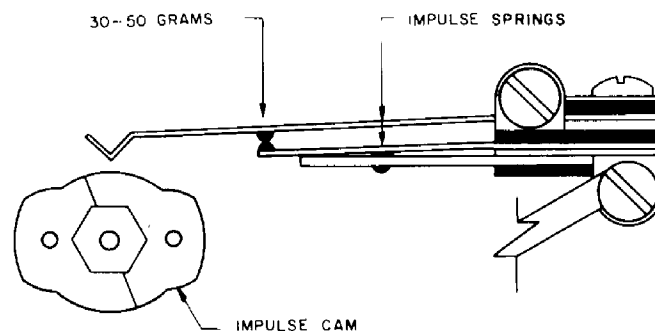

Figure 17. Main Impulse Spring Adjustment.
- (b) With the fingerwheel rotated off-normal until the tip of the main impulse spring is opposite a low side of the cam, both contacts of the main impulse spring must rest against the middle impulse spring with a total pressure of 30 to 50 grams (Figure 17). Impulse spring tension is measured at the contacts while the dial is held off-normal.